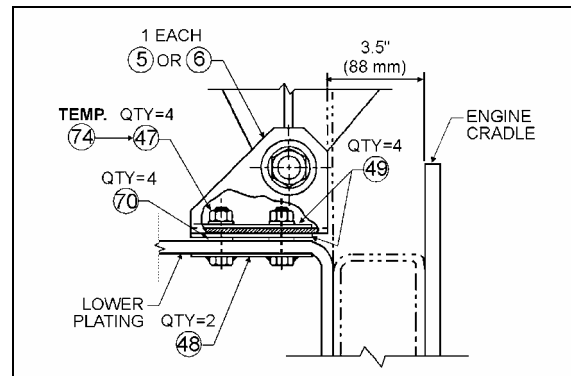

FIGURE 16: ANGLE SUPPORT
1. Install both attachment assembly plates (P/N 051779) (48, Fig. 16) through lower plating and secure with four spring nuts (P/N 500666), (70, Fig. 16). Then install one spacer (P/N 050705), (49, Fig. 16) on each spring nut at both anchoring locations (Fig. 16).
2. Center seat assembly in the fan shroud using the horizontal displacement of the fan driving mechanism support. Center with the slots in the floor at anchoring angle support (on some vehicles only). Vertical displacement of the fan clutch is made possible by slots at the base of the fan clutch (on some vehicles only) or by shimming with additional spacers at anchoring locations. Temporarily secure assembly with two nuts (P/N 500709), (74, Fig. 16) at both anchoring locations.
- Check alignments again (steps 3, 4 & 5) then replace temporary anchoring nuts (P/N 500709) (74, Fig. 16) with four nuts (P/N 500714) (47, Fig. 16) and wrench tighten.